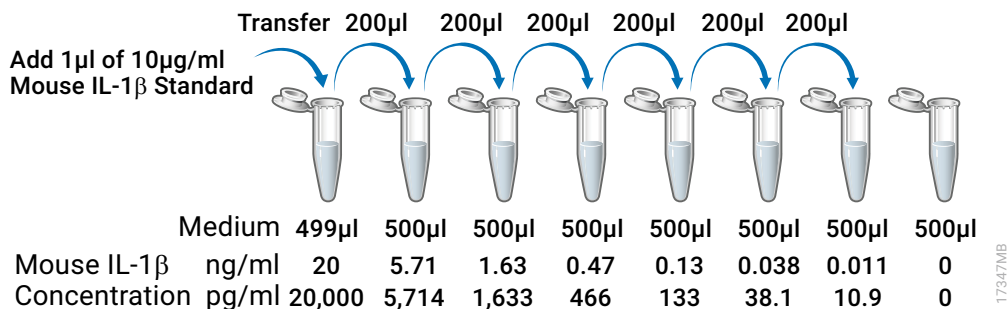

Figure 3. Mouse IL-1β dilution series.
3. Prepare an initial concentration of 20ng/ml mouse IL-1β by diluting Mouse IL-1β Standard (10µg/ml) 1:500 in cell culture medium (typically DMEM + 10% FBS for mouse cells). For example, prepare 500µl by adding 1µl of the Mouse IL-1β Standard to 499µl of culture medium. (See Figure 3.)